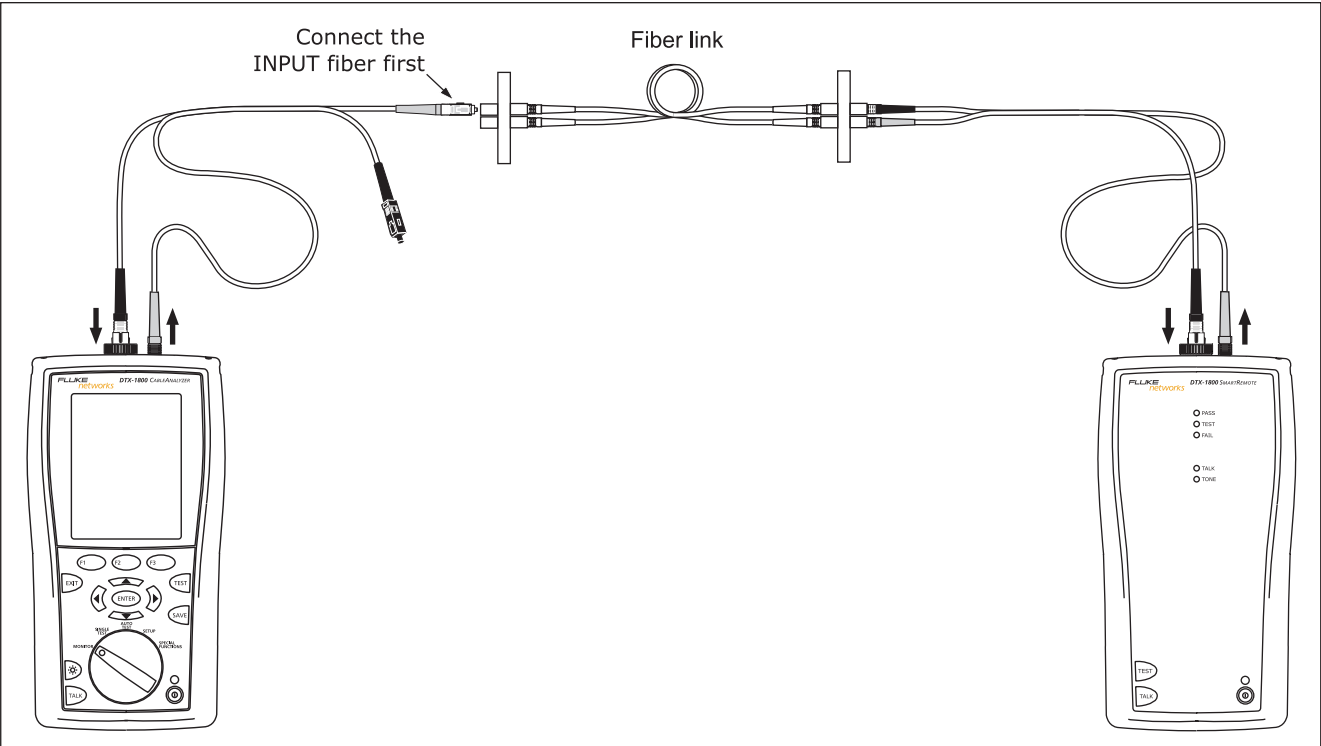

Figure 7-22. Using FindFiber in Smart Remote Mode
- 3 Clean all connectors; then make the connections shown in Figure 7-22.